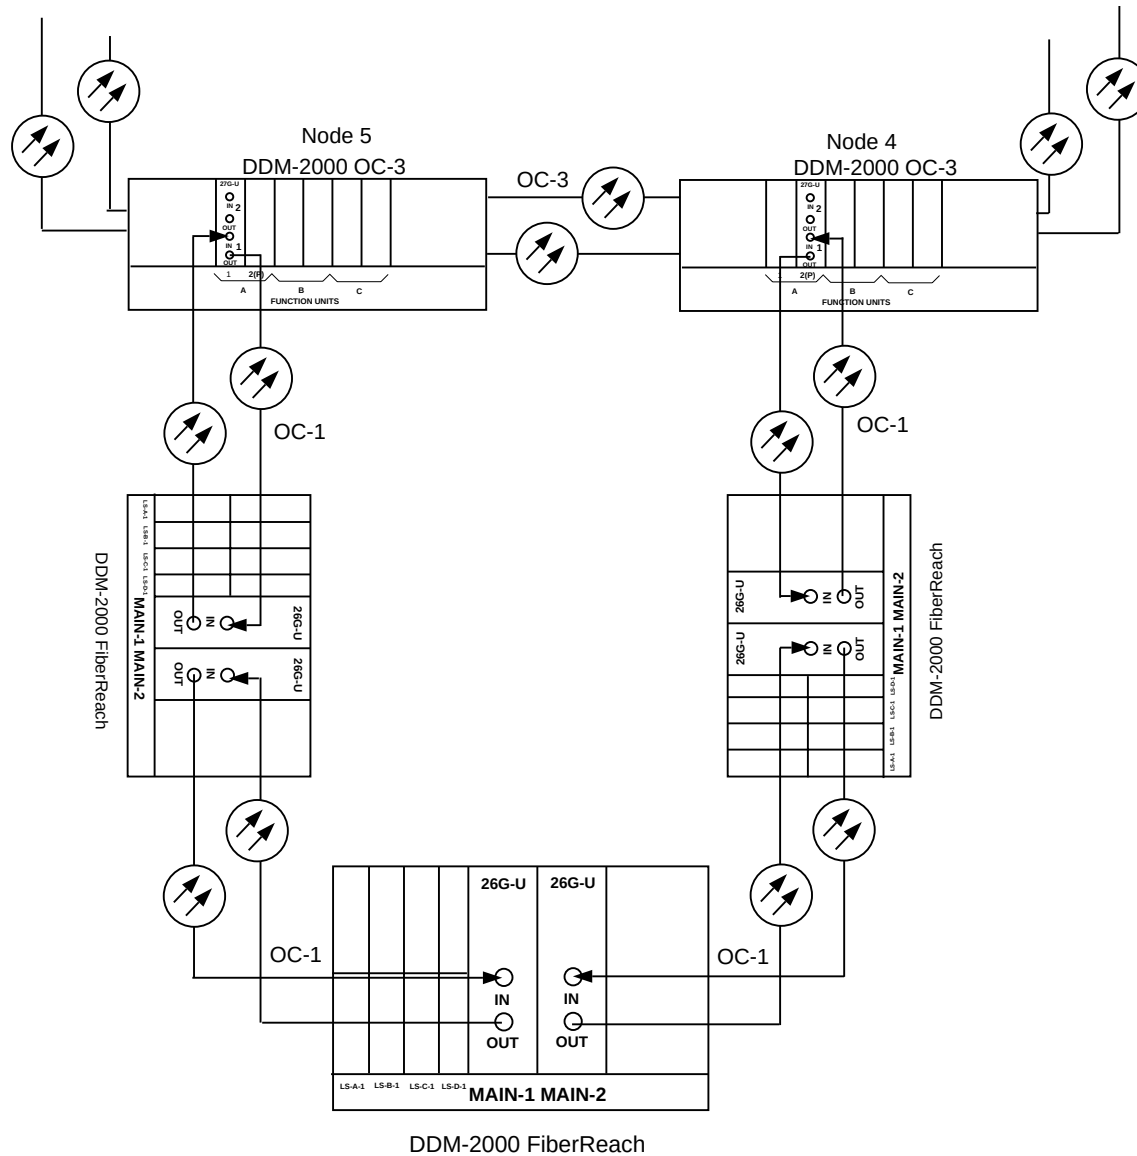

Figure 4. Example of Dual-Homed OC-1/OC-3 Ring Configuration Connections
A dual-homed ring configuration requires that the first FiberReach **MAIN-1 OLIU** connect to **FUNCTION UNITS () 1 OLIU** on one host OC-3 shelf. The last FiberReach **MAIN-2 OLIU** connects to the **FUNCTION UNITS () 2(P) OLIU** on the other host OC-3 shelf. Intermediate FiberReach shelves on the same OC-1 ring connect from **MAIN-2 OLIU** at one FiberReach shelf to the **MAIN-1 OLIU** at an adjacent FiberReach shelf (node). For example, see Figure 4. This procedure will establish the ring configuration starting from one OC-3 host node (near end) and continuing to an adjacent FiberReach node, then to the next FiberReach node until the final connection is made from the last FiberReach node to the remaining OC-3 host node.
At the near end OC-3 host node, remove the optical loop from the **26G2-U** or **27G-U/27G2-U OLIU** OC-1 line (**1** or **2**) being used for the OC-1 ring configuration (for example, in Figure 4, OC-3 shelf Node 5, slot **FUNCTION UNITS A 1**, OC-1 line **1**.) At the other end of the optical span being established, remove the optical loop from the associated **OLIU**. (for example, in Figure 4, FiberReach **MAIN-1 OLIU**.)